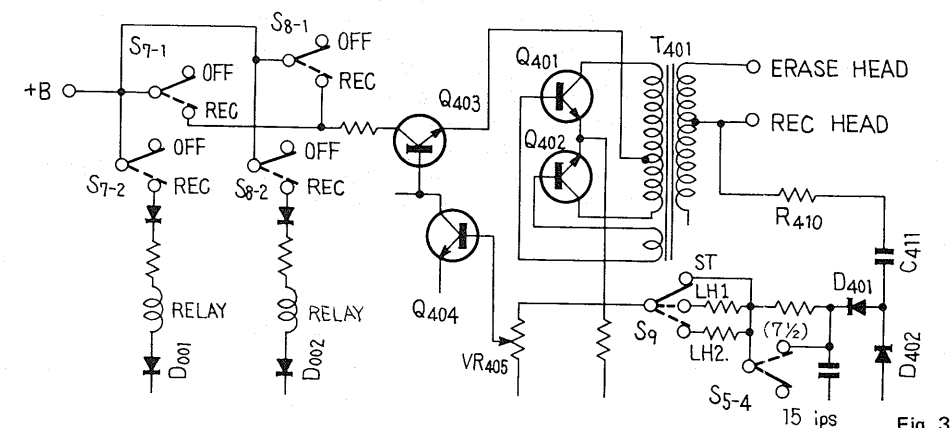

Fig. 3
7. When operating the REC switches (S7 and S8), i.e., the stereo recording, the +B voltage is fed to the oscillator circuit and the current flows to the light-emitting diodes (D001, D002) through relays simultaneously and recording is indicated (Fig. 3).
#### 3.3 OSCILLATOR CIRCUIT (Fig. 3)